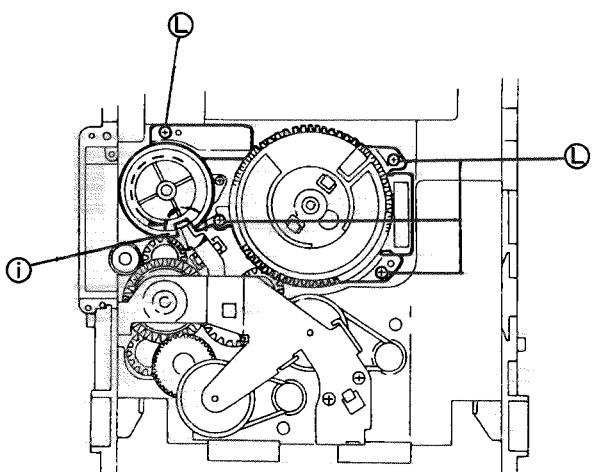

Fig. 36
4. Rotate the Cam gear L so that the select gear's ⑥ is positioned as shown in Fig. 36.
5. Remove 4 screws ⑦ securing the cam unit which includes the cam gear L and Cam R1, R2 ass'y. (See Fig 36.)